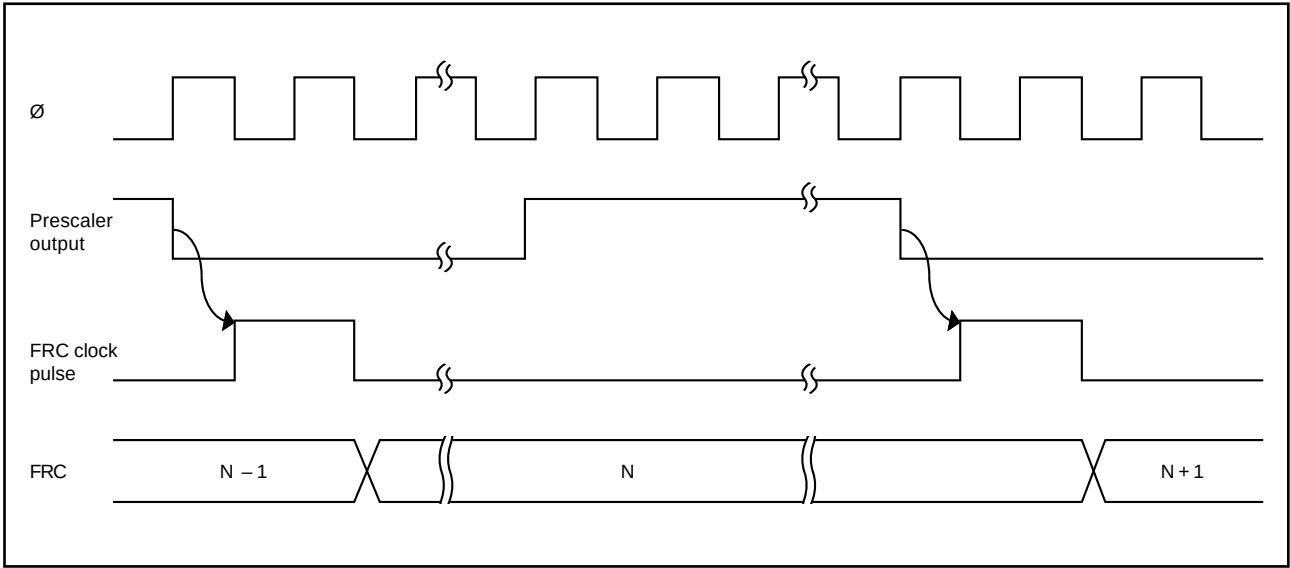

Figure 7-4. Increment Timing for Internal Clock Source
(1) Internal Clock Sources: Can be selected by the CKS1 and CKS0 bits in the TCR. Internal clock sources are created by dividing the system clock ($\emptyset$). Three internal clock sources are available: $\emptyset/2$, $\emptyset/8$, and $\emptyset/32$. Figure 7-4 shows the increment timing.